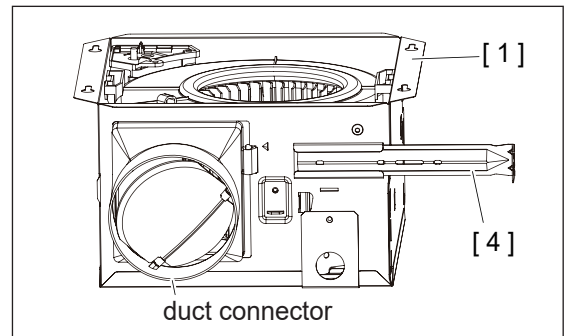

Fig 8
1. Insert Short Bracket [ 4 ] to the slot at the duct side of Fan Body [ 1 ] as figure shows. (Fig 8)